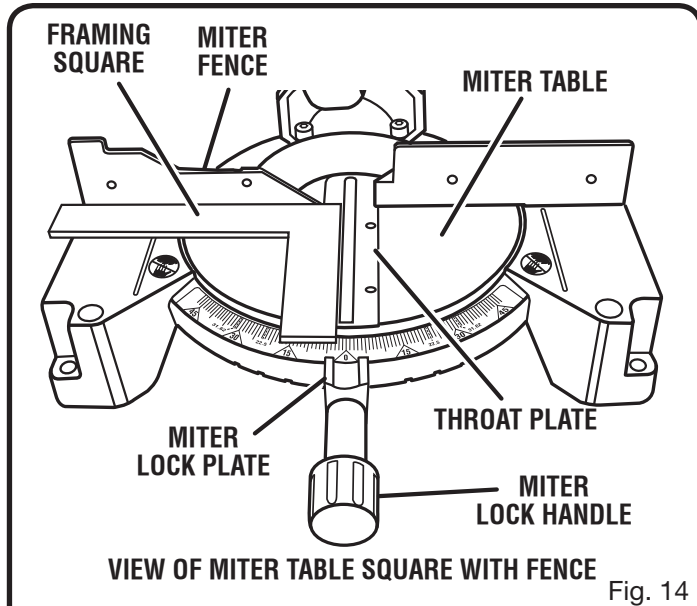

Fig. 14
See Figures 14 - 17.
- Lay a framing square flat on the miter table. Place one leg of the square against the fence. Place the other leg of the square beside the throat plate in the miter table. The edge of the square and the throat plate in the miter table should be parallel as shown in figure 14.